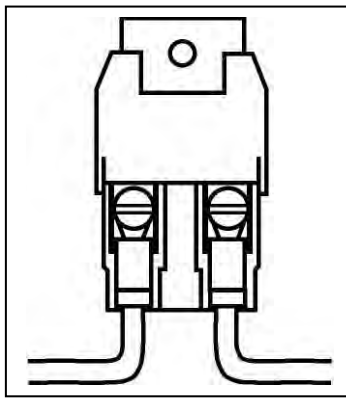

Figure 7.2 Maxi-Fuse
- 7.3.1** A fusible link is no longer supplied with the 10205 kit. Instead, a "Maxi-Fuse" is supplied (**Figure 7.2**). It will be connected onto the end of ENGINE SECTION (single) 10 gauge wire #916 (red-10 ga) AFTER having routed wire from the fuse panel to the starter solenoid.
- 8.1.4 Route the remainder of wire #916 from the ammeter POSITIVE terminal to the starter solenoid battery (B+) terminal. This is the terminal the battery cable is connected to. Splice the maxi-fuse (Figure 7-2) onto the end of wire #916 and connect to the starter solenoid battery (B+) terminal.